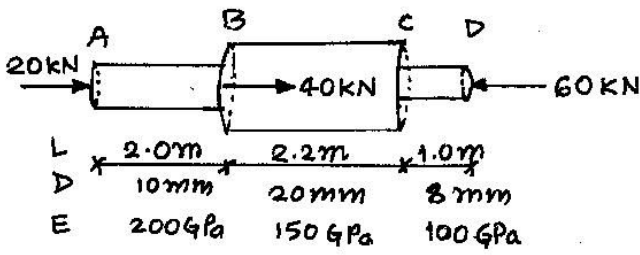

FIG 1. Q 1 (b)
- (b) Find stress and deformation in each part of rod ABCD shown in **fig.1** **05**